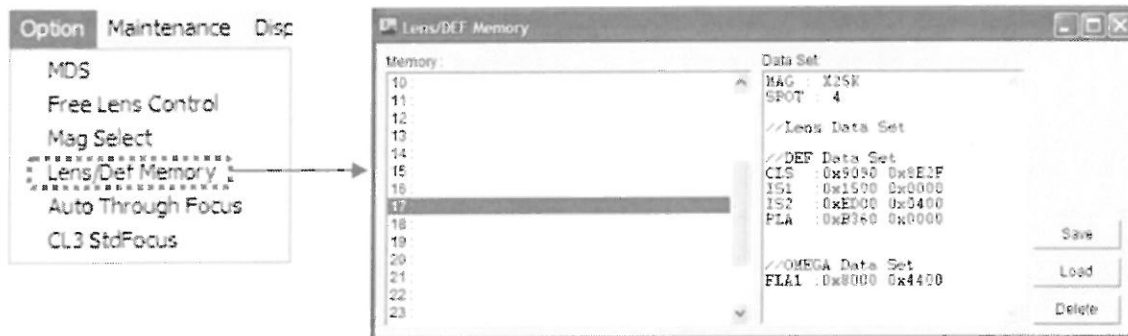

Fig. 5.75 Lens/DEF Memory window
- ◆ Select **TEM Controller — Option — Lens/DEF Memory** (Fig. 5.75).